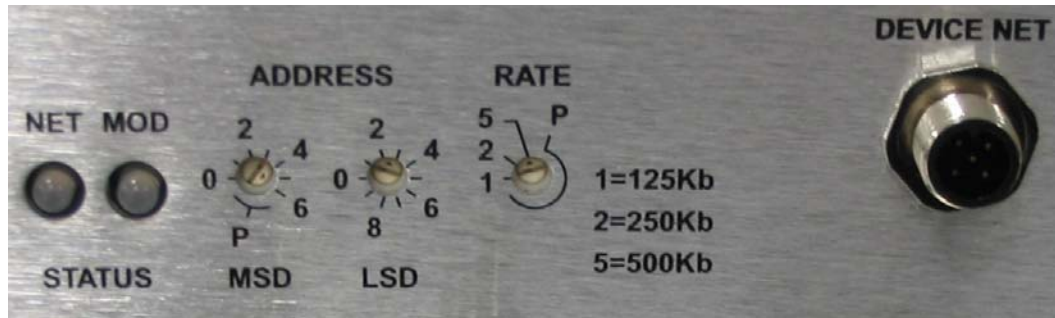

Figure 1. DeviceNet Rear Panel Indicators, Switches, and Connector
2. If the RF Power Supply has DeviceNet configuration switches on the rear panel as shown in Figure 1 below, set the desired address (00 - 63) and data rate (125, 250, or 500 kbit/sec). In Figure 1, the address is set to 63 and the data rate is set to 500 kbit/sec.